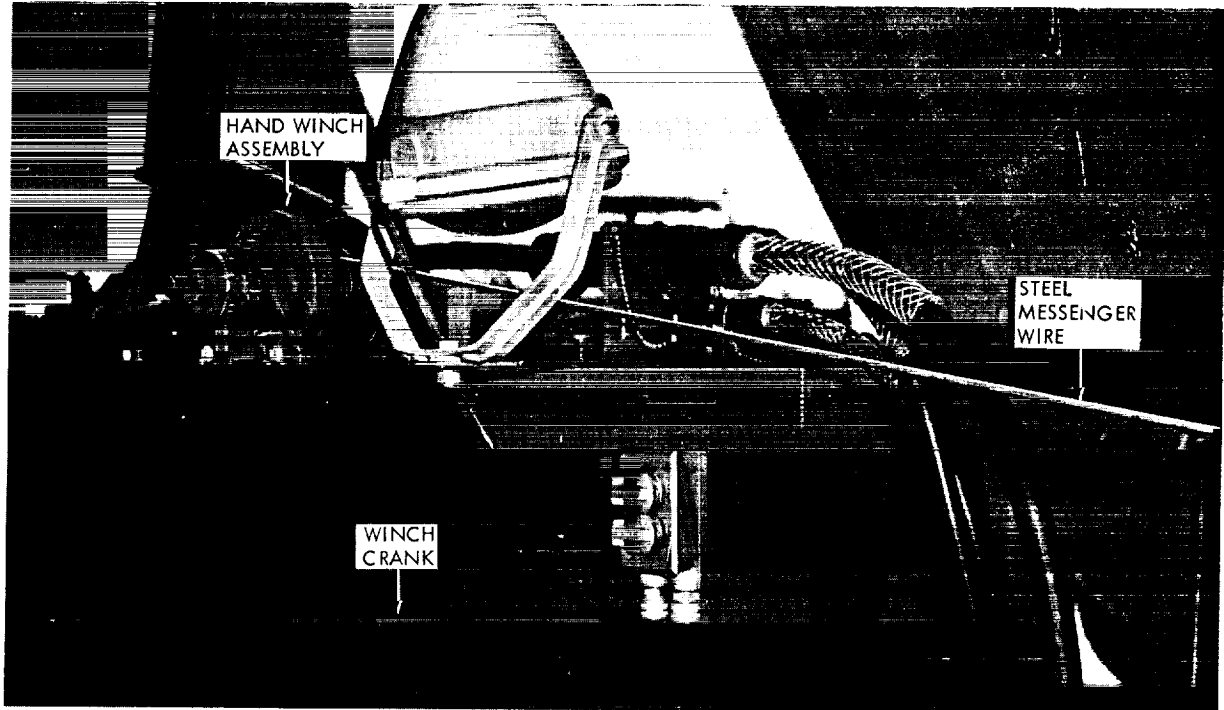

Figure 4-7. Transporter Rear Dolly Messenger Cable System
- m. Install messenger cable between front and rear dollies by reeling cable from winch assembly on rear dolly per figure 4-7 and connecting clevis on end of cable to dead end tongue on front dolly. Tighten messenger cable until it has approximately two feet of sag.